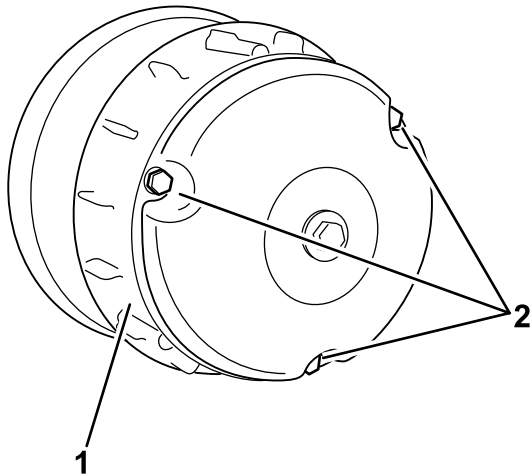

Figure 50
1. Remove the 3 bolts securing the cover to the clutch, and remove the cover (Figure 50).
3. Install the clutch cover and secure it with the 3 bolts (Figure 50) that you removed in 1.